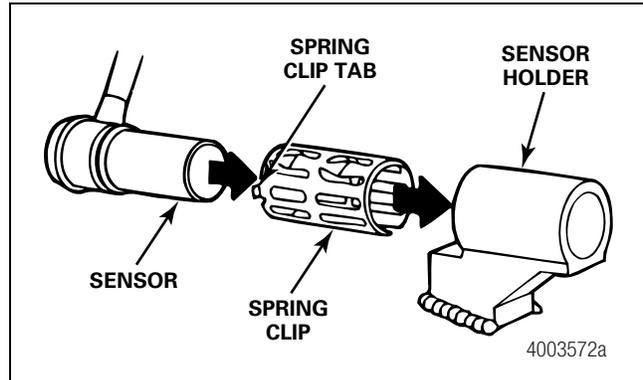

Figure 19
3. Push the spring clip into the sensor holder from the inboard side until the spring clip tabs are against the sensor holder. Push the sensor into the spring clip as far as possible. Figure 19.